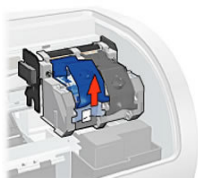

Fig. E5
2. Open the top cover and lift the print cartridge latch to the open position (figure E5).